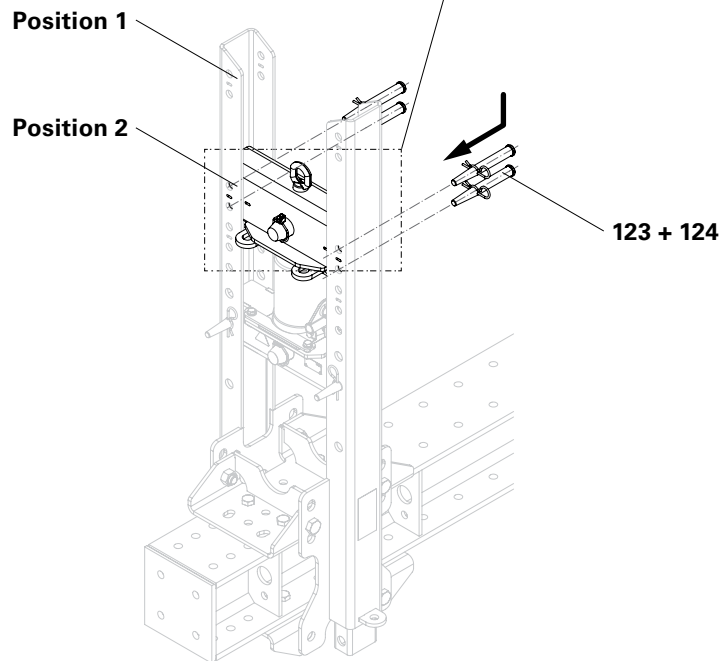

Fig. B5.06
8. Insert fitting pin 21x120 (123) and secure with cotter pin 4/1 (124). (Fig. B5.06)